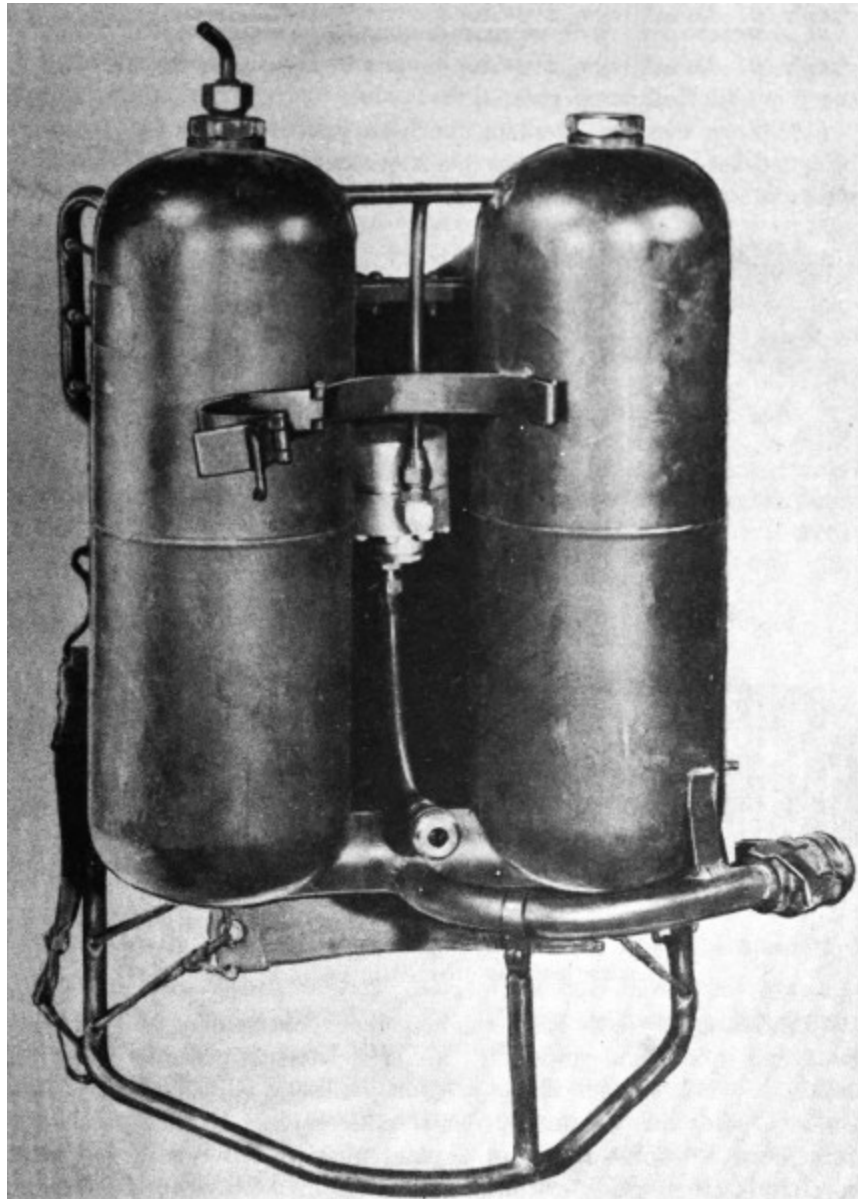

FIGURE 35.7. (Added.) Tank group, ready to receive a charged pressure tank and valve assembly.
(7) Flame thrower is now ready to receive a charged pressure tank and valve assembly. (See fig.35.7.)